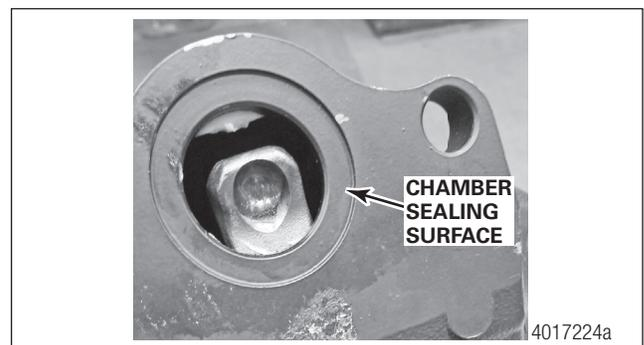

Fig. 8.2 Check sealing surface.
STEP 4 - Inspect the chamber mounting face and sealing surface on the caliper. If the sealing surface is corroded, replace the caliper. Figure 8.2.